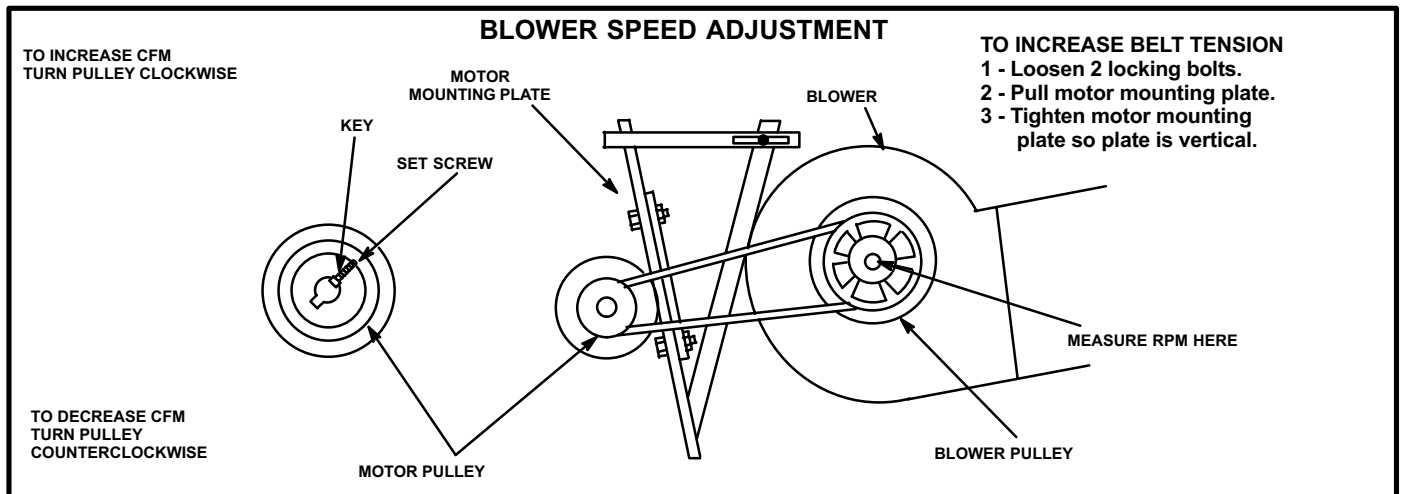

FIGURE 26
- 3- Measure the indoor blower wheel RPM (See figure 26).
- 2- Loosen the set screws on motor pulley and remove key as shown in figure 26.